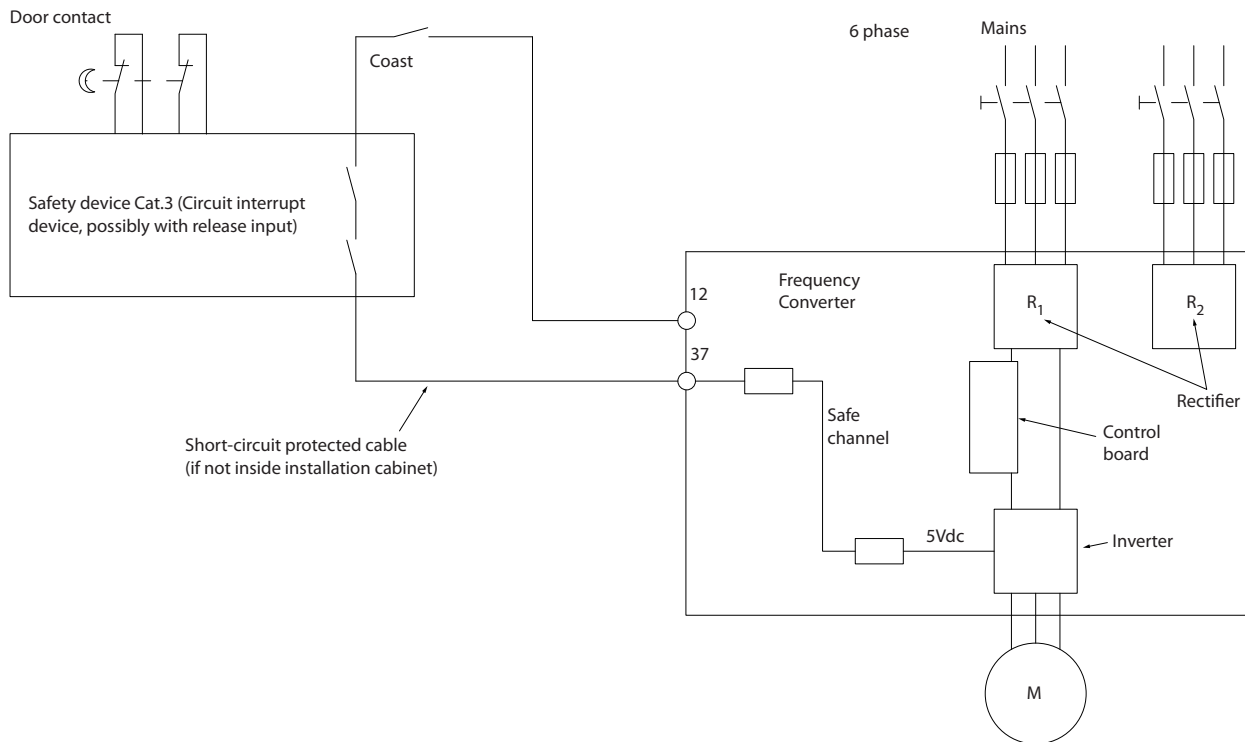

Figure 2.2 Essential aspects of an installation to achieve a Stopping Category 0 (EN 60204-1) with safety Category 3 (EN 954-1).
*Figure 2.2* shows a Stopping Category 0 (EN 60204-1) with safety Category 3 (EN 954-1). The circuit interrupt is caused by an opening door contact. The illustration also shows how to connect a non-safety related hardware coast.